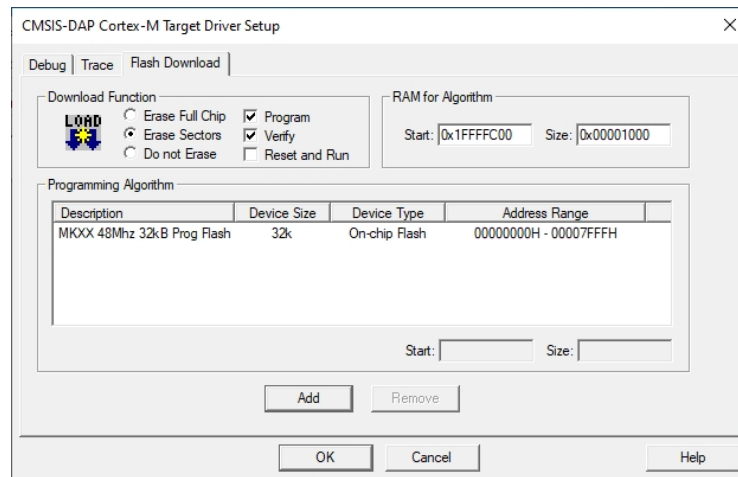

Figure 11. Flash download options for μ Vision Debug
- j. Click the **Flash Download** tab to show the flash download options, as in Figure 11.
- k. Verify that the settings in the window are the same as those shown in Figure 11.